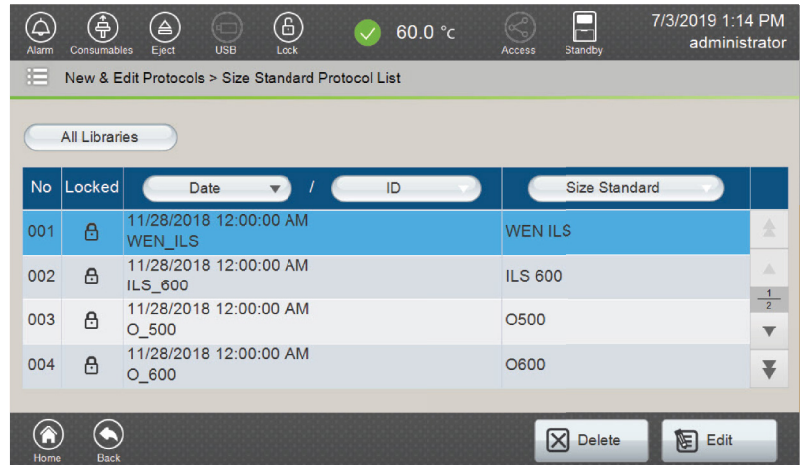

Figure 151. 'Size Standard Protocol List' screen with selected Size Standard.
- Locate the desired Size Standard protocol in the list using scroll buttons on the right side of the list. Select the size standard you want to edit on the 'Size Standard Protocol List' screen (Figure 150). This will activate **Edit** and **Delete** in the footer (Figure 151).
3. Locate the desired Size Standard protocol in the list using scroll buttons on the right side of the list. Select the size standard you wish to delete on the 'Size Standard Protocol List' screen (Figure 150). This will activate **Edit** and **Delete** in the footer (Figure 151).